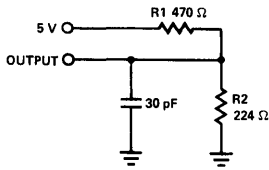

Figure 1a
7. Test conditions assume signal transition times of 5 ns or less for the -15 product and 10 ns or less for the -25 and -35 product. Timing reference levels of 1.5V and output loading of the specified IOL/IOH and 30 pF load capacitance as in Figure 1a.